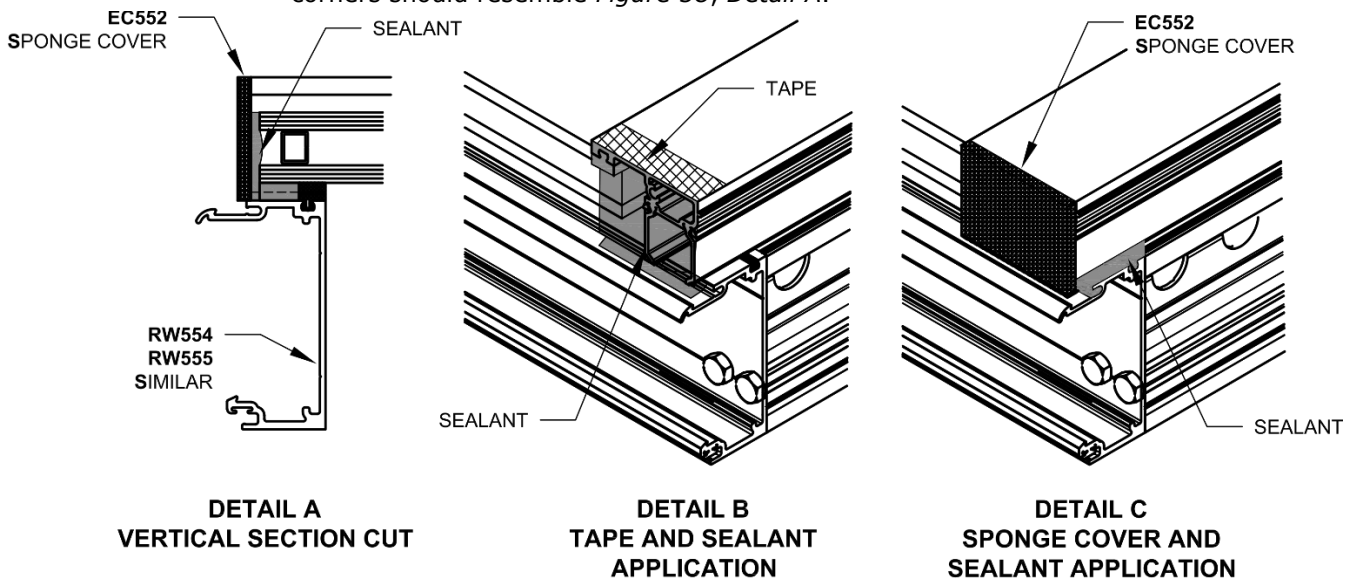

Figure 58: SSG End Cap Sealing
16.5.7 Tape the end of the front face and apply silicone sealant to the ends of the glass and the front glazing pockets. Tape location shown in *Figure 58, Detail B*.
16.5.8 Apply the **EC552** Sponge Cover to sit centered and flush with the edge of the front face. Temporarily tape the cap in place, being careful to not pull off center. Reference *Figure 58, Detail C*.
16.5.9 Repeat 16.5.7 and 16.5.8 on all four corners at all Head and Sill conditions. Finished corners should resemble *Figure 58, Detail A*.